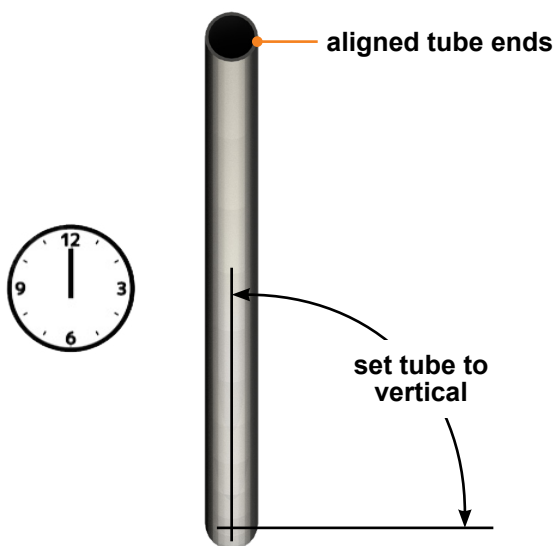

Fig.2
6. Position the tube so the ends curve upward and are vertically aligned to one another at the 12 o'clock position (Fig.2).